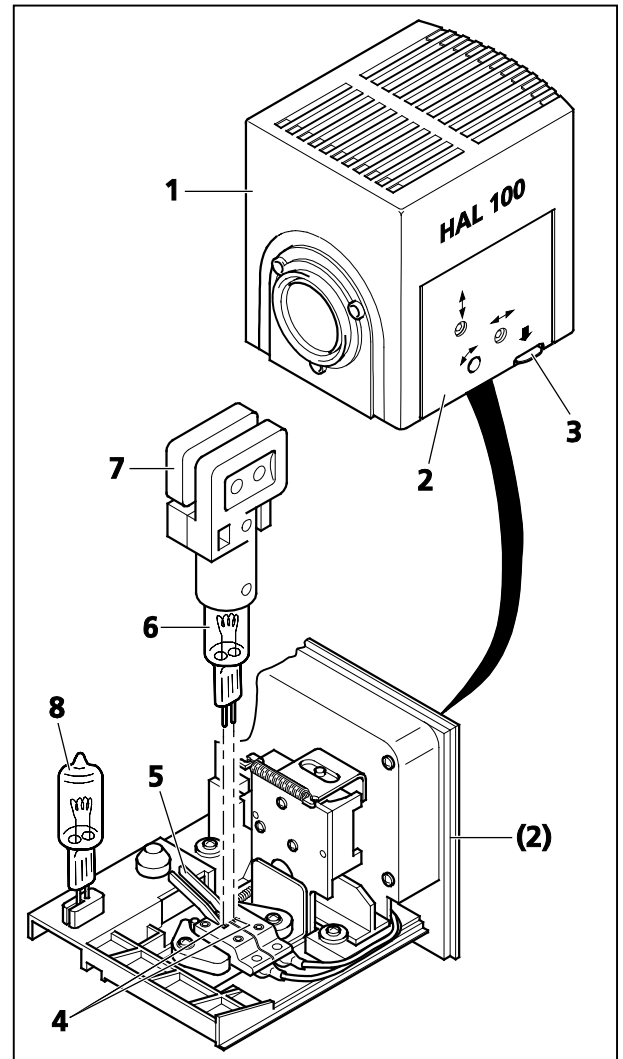

Fig. 53 Replacing the halogen bulb
The lamp housing does not need to be removed from the stand in order to replace the halogen bulb. The bulb replacement tool (Fig. 53/7) is **not** to be stored in the lamp housing when the illuminator is in use.
The spare bulb (Fig. 53/8) can remain in place in the lamp housing.
- Press the release button (Fig. 53/3) on the HAL 100 illuminator (Fig. 53/1) downwards and remove the bulb holder (Fig. 53/2) completely. Place it on a flat surface.
- Press down the two spring levers (Fig. 53/5) and remove the old halogen bulb (Fig. 53/6) by pulling it upwards.
- Press down the two spring levers and insert the new bulb into the bulb socket (Fig. 53/4). Release the spring levers. Always hold the halogen bulb by means of the bulb replacement tool (Fig. 53/7), as traces of grease on the bulb may shorten bulb life.